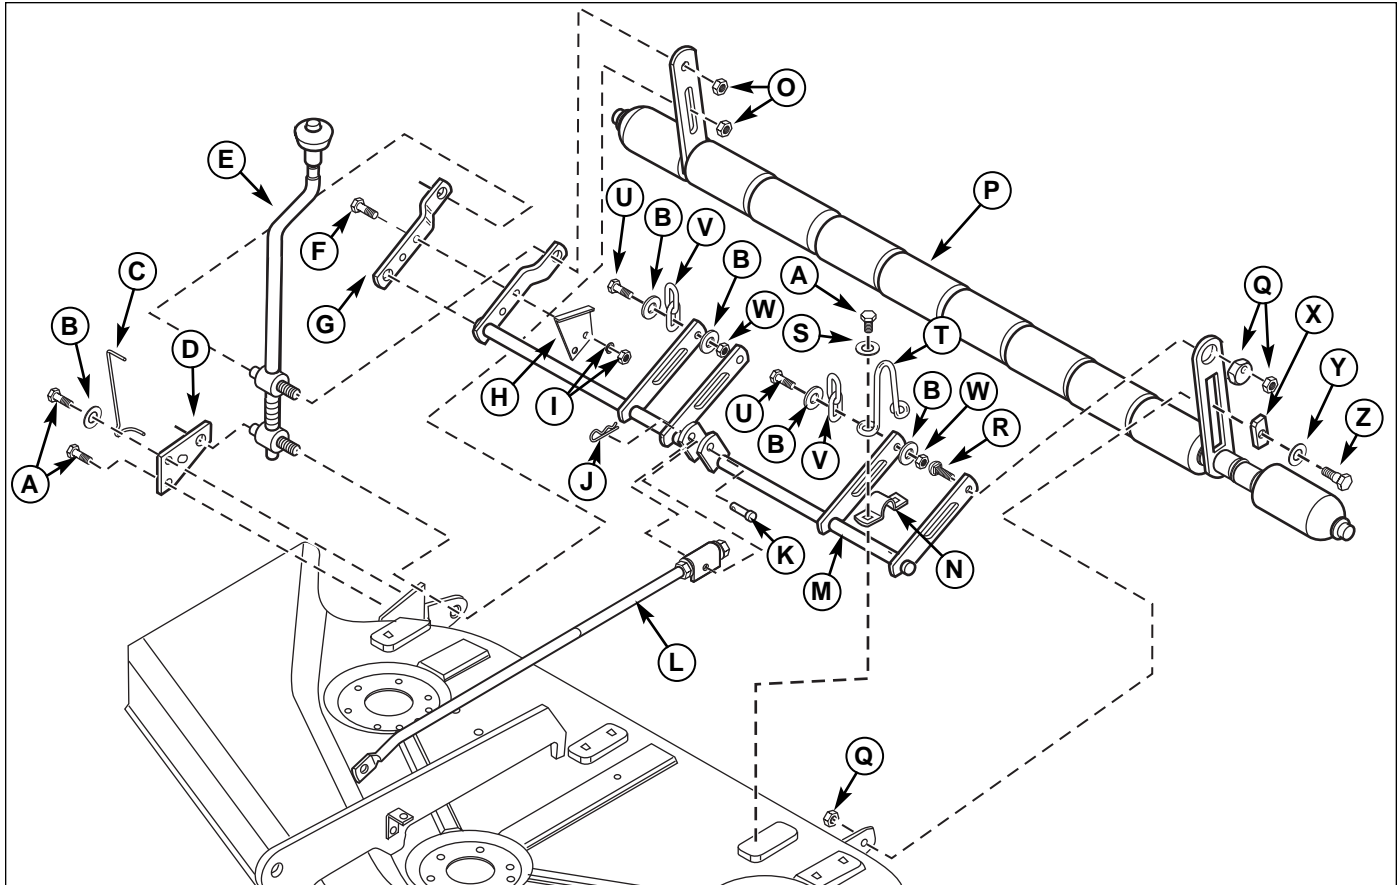

Figure 3. Installation 44" Rollers
1. Attach the rocker arm assembly (M, Figure 3) to the mower deck with the straps (N), washers (S), upstop (T), and capscrews (A). Apply a thin film of grease to the inside of the straps.
2. Attach the chains (V) to the rocker arm assembly (M) using 5/16-18 x 1-1/2 capscrews (U), washers (Y), and 5/16-18 locknuts (W) as shown.
3. Place upper trunnion on crank & trunnion assembly (E) through hole in rocker arm assembly (M) and roller bar assembly (P) as shown. Secure with 1/2-13 locknut (O).
4. Place lower trunnion on crank & trunnion assembly (C) through hole in mower deck and roller bar assembly (P) as shown. Secure with 1/2-13 locknut (O).
5. Connect the LH side roller bar assembly (P) to LH side of rocker arm assembly (M) securing with 3/8-16 x 1-1/2 carriage bolt (R) and eccentric & 3/8-16 locknut (Q).
6. Connect the LH side roller bar assembly (P) to LH side of mower deck securing with 3/8-16 x 1-11/32 shoulder bolt (Z), 1/2 washer (Y), slide (X), and 3/8-16 locknut (Q).
7. Attach height of cut plate (H) to rocker arm assembly (M). Secure with 5/16-18 x 1-1/4 capscrews (F) and nuts & washers (I).
8. Attach the mower support plate (D) and indicator (C) to mower deck. Secure with 5/16 washer (B) and 5/16-18 x 1-1/4 capscrews (A).
9. Attach adjustment rod (L) to rocker arm assembly (M) using clevis pin (K) and hair pin (J).